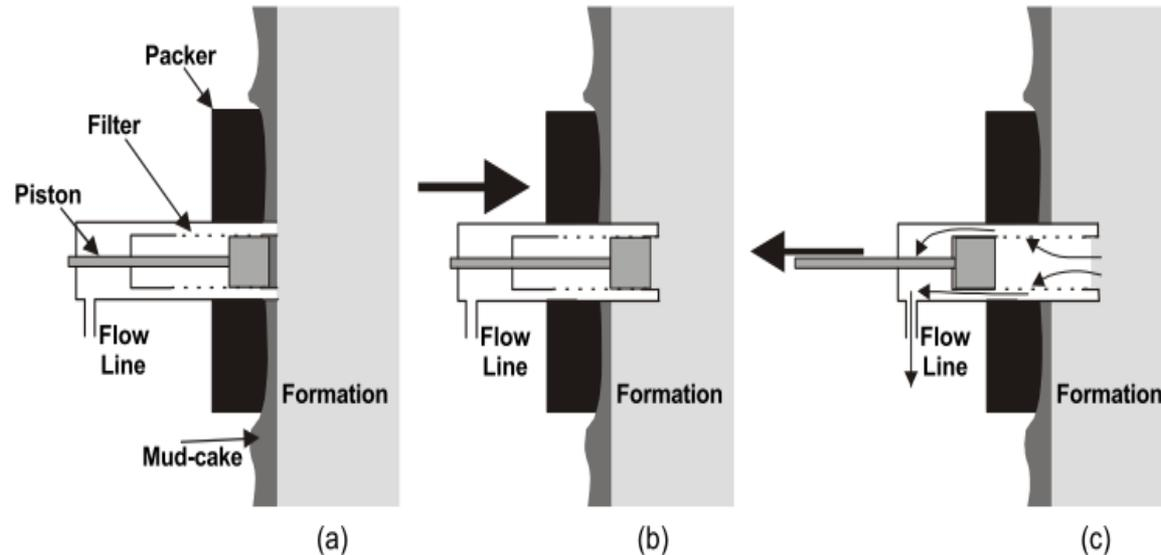

Figure 4: RFT operation
- ❑ The packer seals the sampling head from the drilling mud and mudcake surrounding the tool (Figure 4. a).
- ❑ The probe containing the piston is then pressed through the mudcake into the formation (Figure 4.b).
- ❑ The piston is withdrawn, allowing fluids to pass from the formation into the tool (Figure 4.c). This fluid is made to enter a chamber (first pre-test chamber) through a special valve that limits the flow rate to about 60 cm³/min. The sampling pressure is measured. When the first chamber is full, it is closed-off and a second pre-test chamber is filled at a higher rate (150 cm³/min), while measuring the fluid pressure. When this chamber is full the flow-line fluids are at the same pressure as the fluids in the formation, and this pressure is measured.